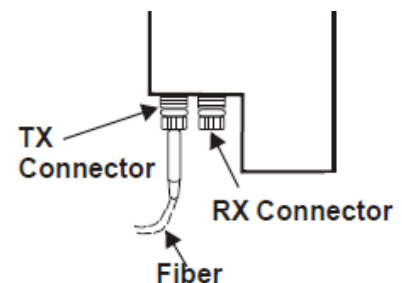

Fig 3: Fiber Connections
1.5.2 Connect incoming fibers (or fiber patch cords) to the TeleLite fiber module connectors per Figure 3.